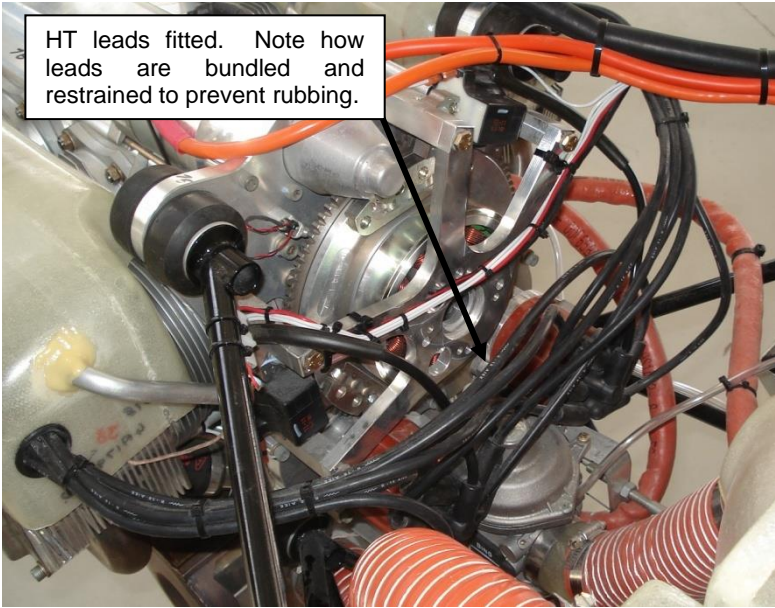

Figure 202 – HT Leads Fitted To Engine
- Assemble the high-tension leads onto the engine, cable-tying them as shown in Figure 202.